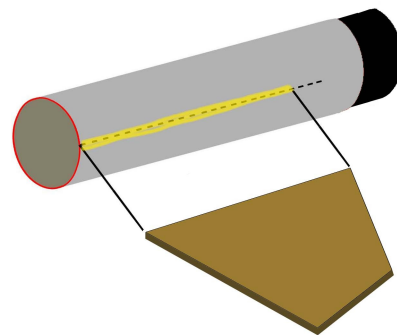

Figure 7
- **Step 15** Apply a bead of full-strength glue to one of the fin alignment lines, and a similar bead to the root edge of a fin. Attach the fin to the body as shown in Fig. 7. With the artist's brush slightly wet, smooth down the glue that has squeezed out from the joint to form a small fillet. Do not over-wet this area! Slide the alignment guide down over the tube, and carefully insert the fin through one of the slots. The guide will hold the fin in its correct position while the glue dries. When dry, remove the guide and repeat this step for each of the other main fins.